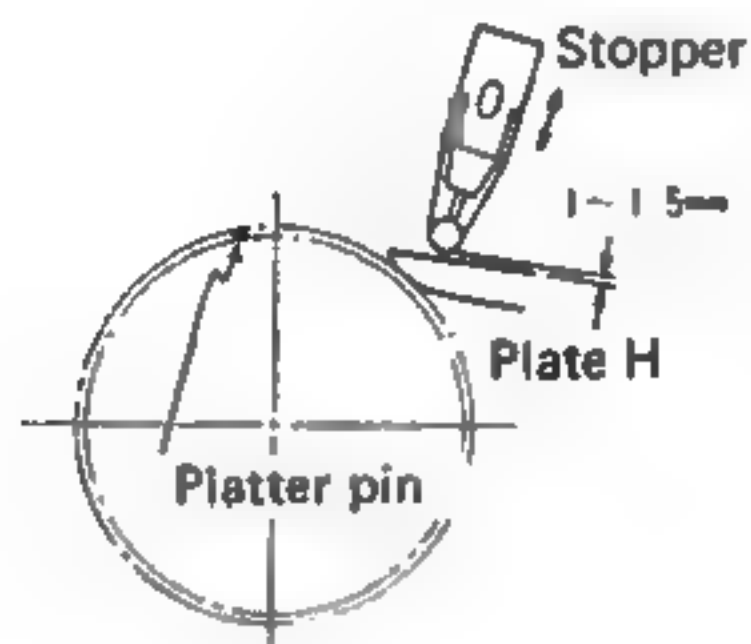

Fig. 21-a
5. Gently raise the platter. So that space between plate H and stopper becomes 1—1.5mm, adjust by moving stopper (Fig. 21-a).